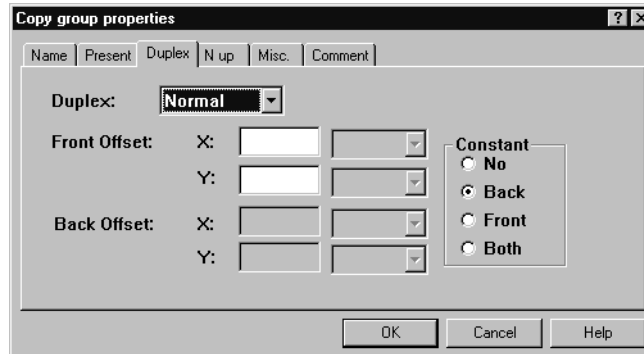

Figure 23. Constant back settings in copy group
1. We will start by making the necessary modifications to the copy group, **COPY1**. Activate the form definition window, and right click on the copy group. Click on the **Duplex** tab. You will see a window similar to Figure 23.